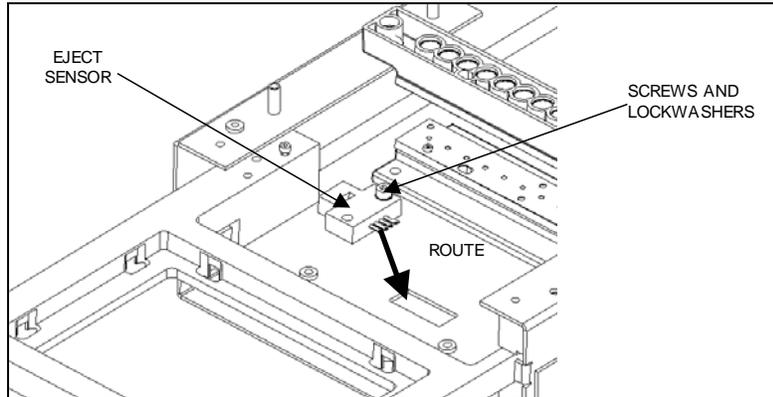

Figure 11-34 Eject Sensor
- 1 Remove the two M3 x 10 SHCP screws and two M3 lockwashers (Figure 11-34).